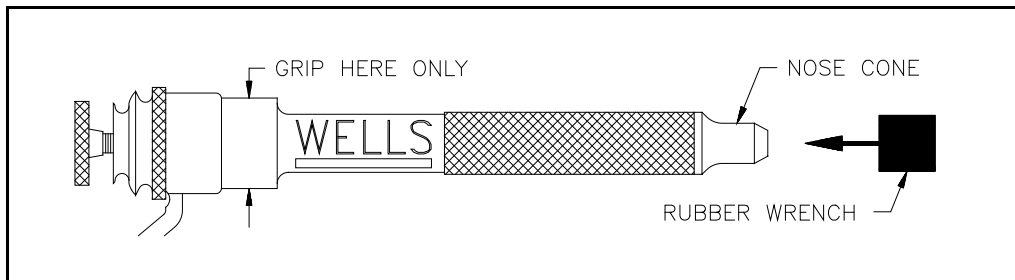

Figure 4. Remove the nose cone
7.1.2 Slide the rubber wrench provided onto the nose cone and unscrew it. If the nose cone is too tight to remove by hand, use a pair of pliers over the rubber wrench. If the nose cone is still too tight, use another pair of pliers (padded with rubber or cloth) on the smooth **LARGER** diameter of the handpiece body. See Figure 4. Never use pliers on the knurled or labeled section of the handpiece body.